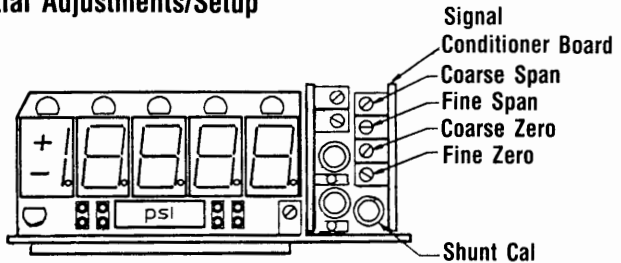

Figure 1—GM Control Locations
3. Adjust the COARSE ZERO potentiometer (see figure 1) to give an output voltage on terminals 10 and 11 of about 0.V. Then adjust the FINE ZERO to bring this value to exactly 0.V.
2. Depress the SHUNT CALIBRATION button (See figure 1).
4. Gently remove the Signal Conditioner Board from the Main Board. (See figure 1.)